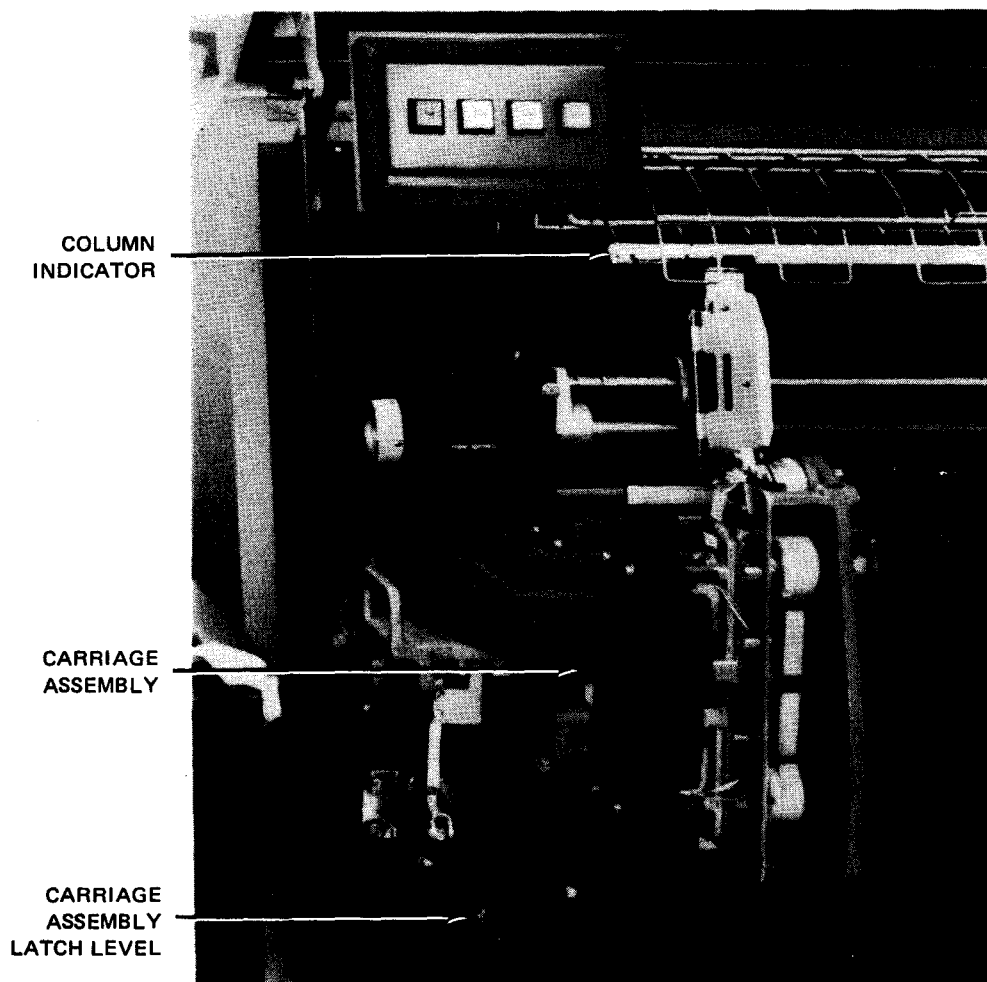

Figure 5—52. Print Carriage Assembly Closed
8. Place a supply of forms in paper well compartment (Figure 5—53) so that form print surface faces the operator.
9. Place the form on the upper left tractor pins with top edge of the form resting against the column indicator on the paper rack (Figure 5—52).
10. Close the pressure plate of the upper left tractor (Figure 5—53).